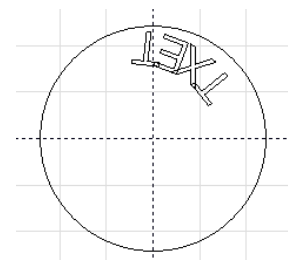

Fig. 4-16 Text inside the arc **The text is located inside the arc**
**Text inside the arc:** Put the text inside the arc as show in flowing fig.as shown in Fig.4-16: